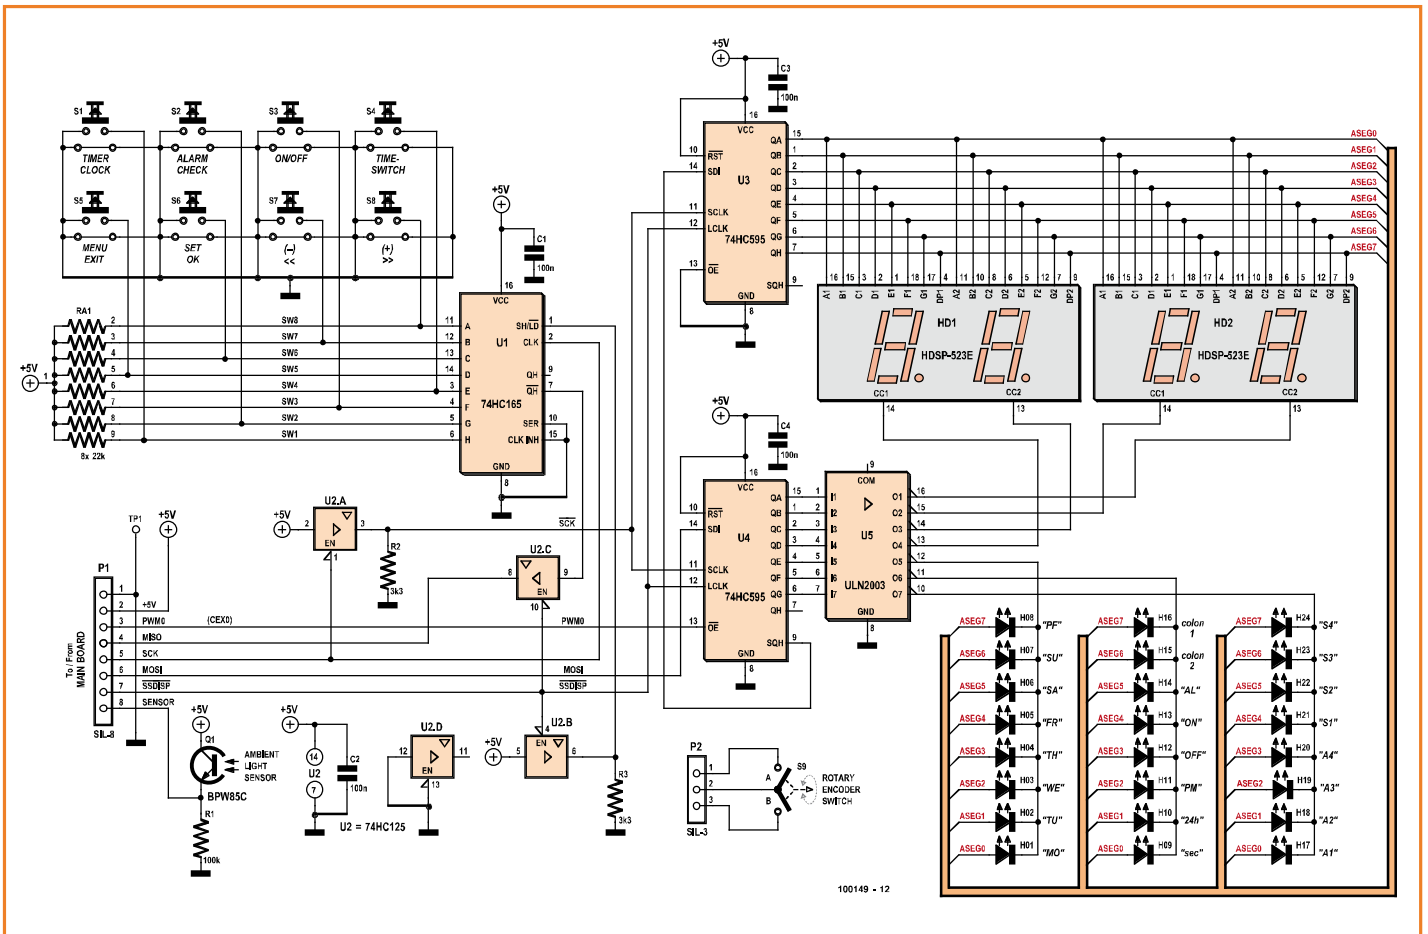

Figure 4. Circuit diagram of the display board.
**Figure 4** shows that the 4-digit numeric display is realized using two 2-digit devices (Avago HDSP-523X), available in three colours: red, green or yellow. Pin-compatible parts are made by other optoelectronics manufacturers. Backlit enunciators are realized by 24 discrete LEDs, 5 mm round diffuse lens, of various colours.